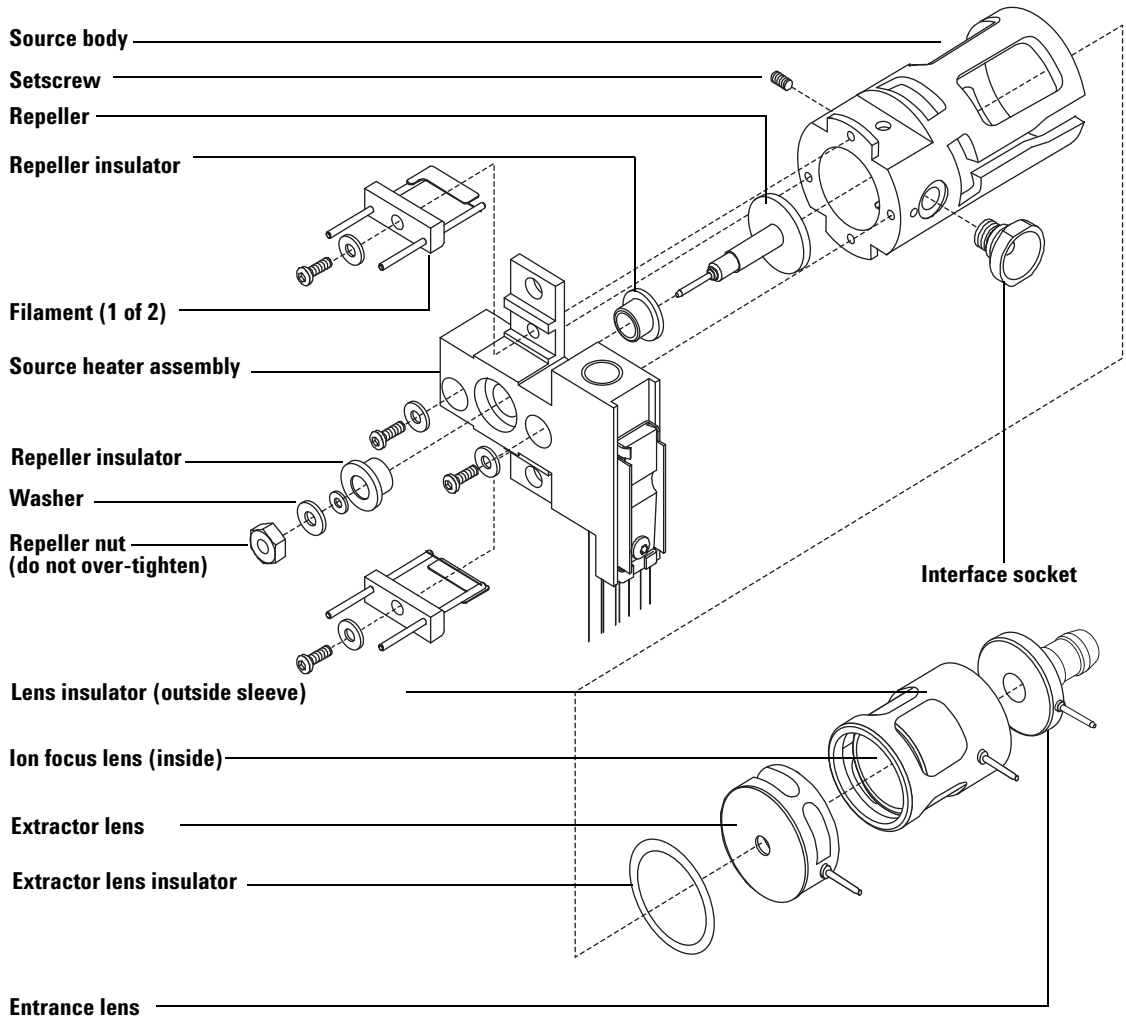

Figure 22 Disassembling the EI extractor ion source
- 3 Separate the source heater assembly from the source body by removing the two screws. The source heater assembly includes the source heater, repeller, and related parts. (See Figure 22.)
- 4 Disassemble the repeller assembly by removing the repeller nut, washers, ceramic insulators and repeller. (See Figure 22.)
- 7 Pull the lenses out of the source body and separate the lens insulator, ion focus lens, extractor lens, extractor lens insulator, and entrance lens. (See Figure 22.)